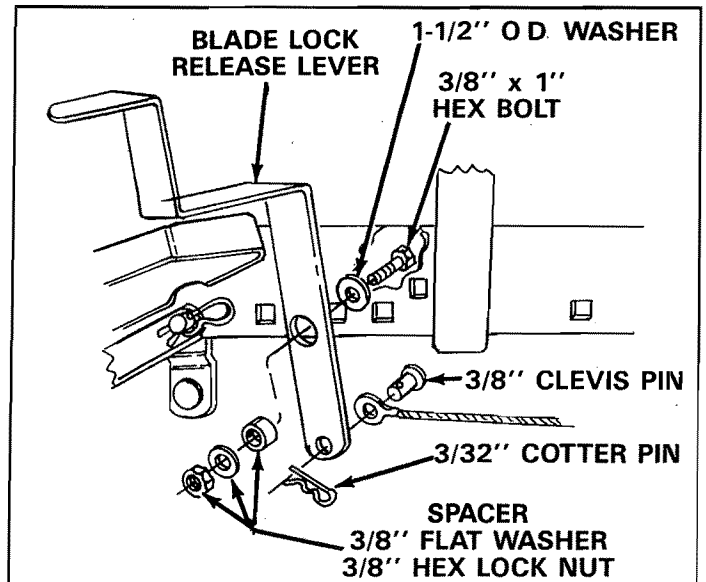

FIGURE 20
- Move attachment lift lever all the way forward and lock in position. See figure 20, page 9.
22. Assemble blade lock release lever to right side of tractor frame using one 1-1/2" O.D. washer, one 3/8" x 1" hex bolt, spacer, 3/8" flat washer and secure tightly with one 3/8" hex lock nut. See figure 20.
23. Secure one end of blade lock release cable to small hole in blade lock release lever using one 3/8" x 3/4" clevis pin and one 3/32" hairpin cotter. See figure 20.